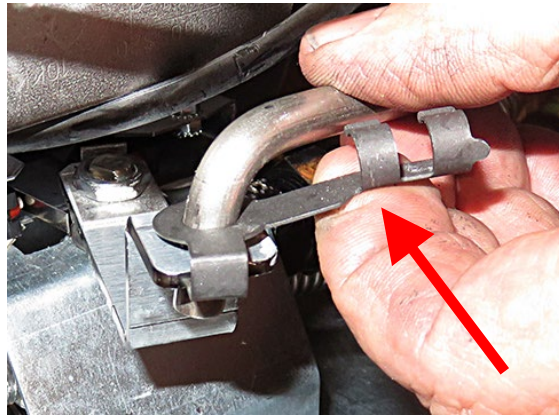

Figure 40
44. Attach the dispose handle assembly 1080686 to the dispose switch valve assembly with the clevis clip (see Figure 40).